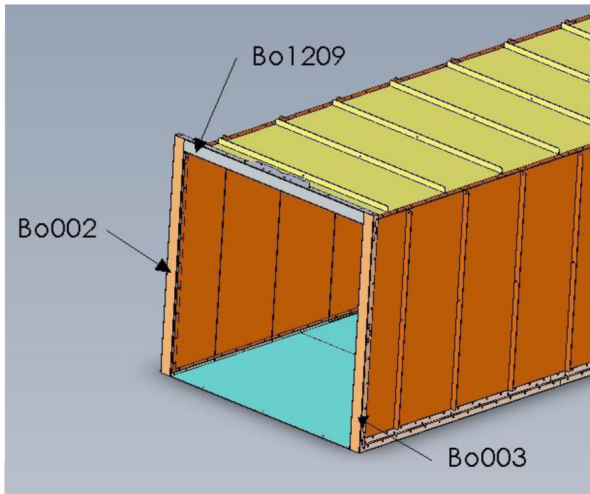

Figure 9
9) Now install parts BO-002, BO-1209 and BO-003 using 5/16" bolts. **See figure 9.**